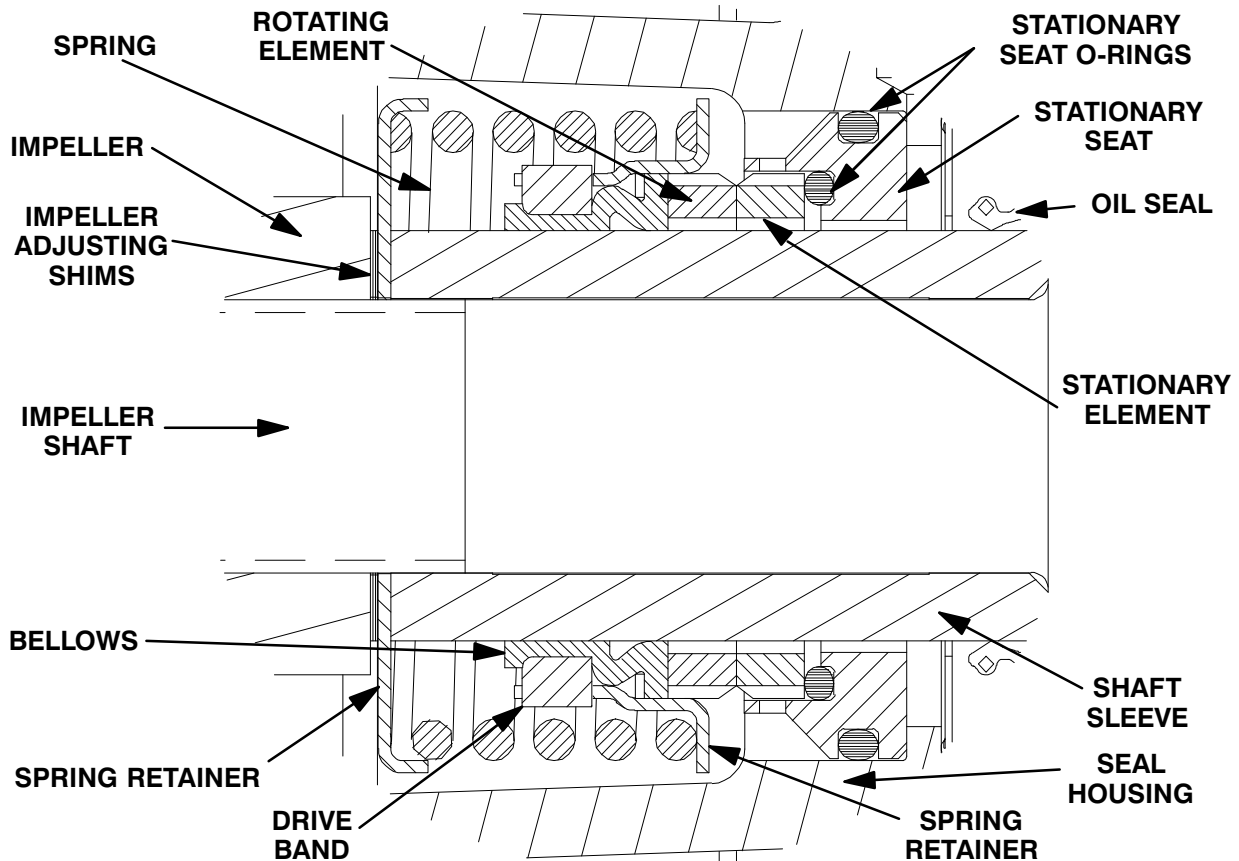

Figure 3. Seal Assembly
To ease installation of the seal, lubricate the shaft sleeve (59) with water or a very **small** amount of oil, and apply a drop of light lubricating oil on the finished faces. Assemble the seal as follows, (see Figure 3).